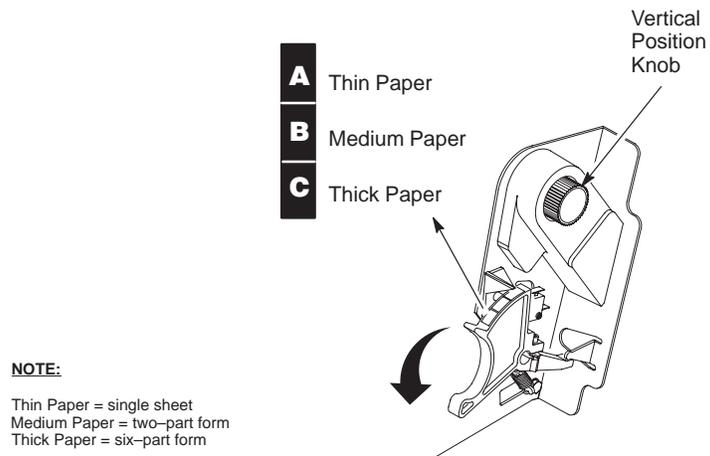

Figure 2–30. The Forms Thickness Scale
9. Turn the vertical position knob to feed the paper up into the paper guide assembly. (See Figure 2–30.)
10. Lower the forms thickness lever. Set it to match the paper thickness (refer to the note on shuttle cover). (See Figure 2–30.)